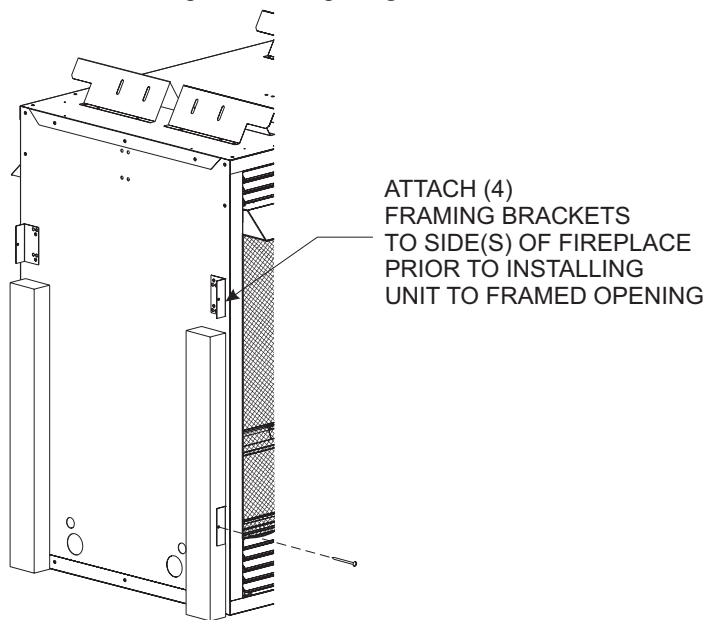

Figure 11
Place fireplace in framed opening. Attach the framing brackets to the fireplace and secure to framing. Different hole locations can be used for finishing materials with thicknesses of 3/8", 1/2" and 3/4". Secure the brackets with screws provided using two (2) per framing bracket. **See Figure 11.**